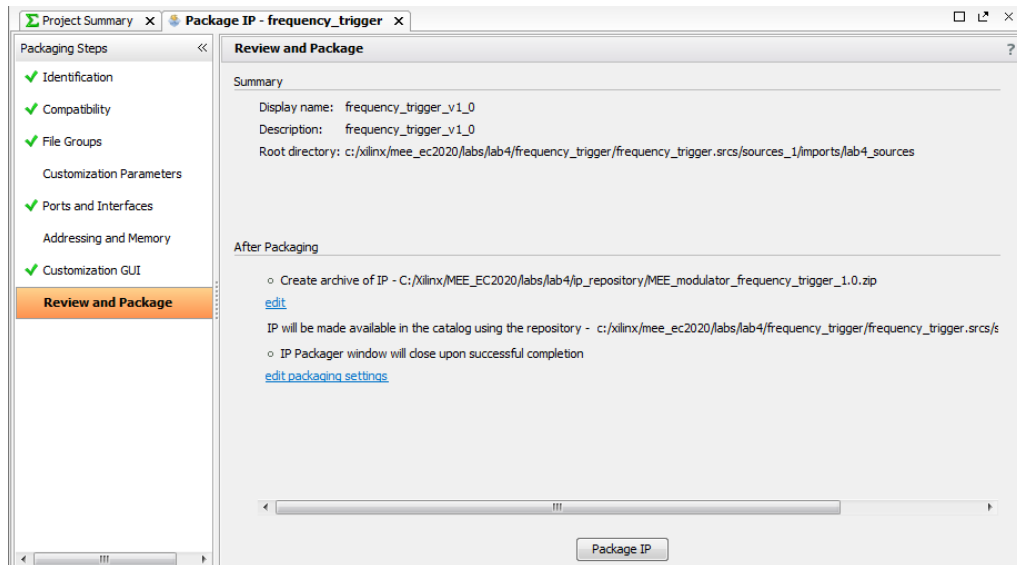

Figure 13. Package IP dialog box with selected new archive location
- 2-2-13.** Click **OK** and you should see all the modifications that we made in the **After Packaging** sector of the **Review and Package** window, see Figure 13.